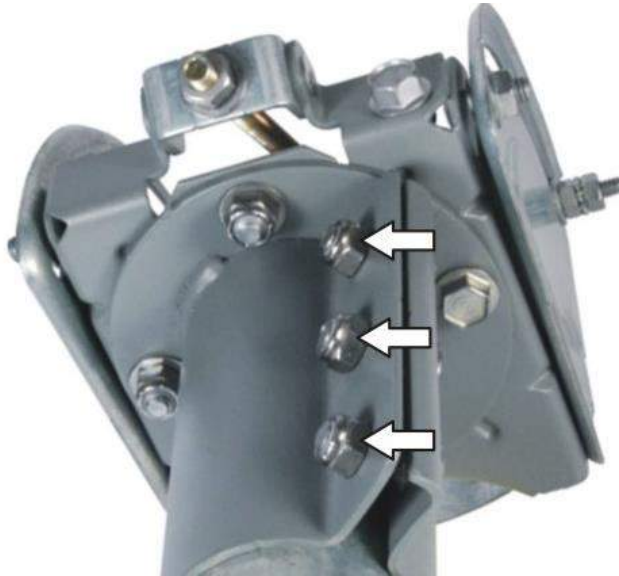

Figure 27: Az/El canister nuts
1. Loosen the three Az/El canister nuts (arrows in Figure 27) enough to allow the antenna assembly to rotate freely on the mast.